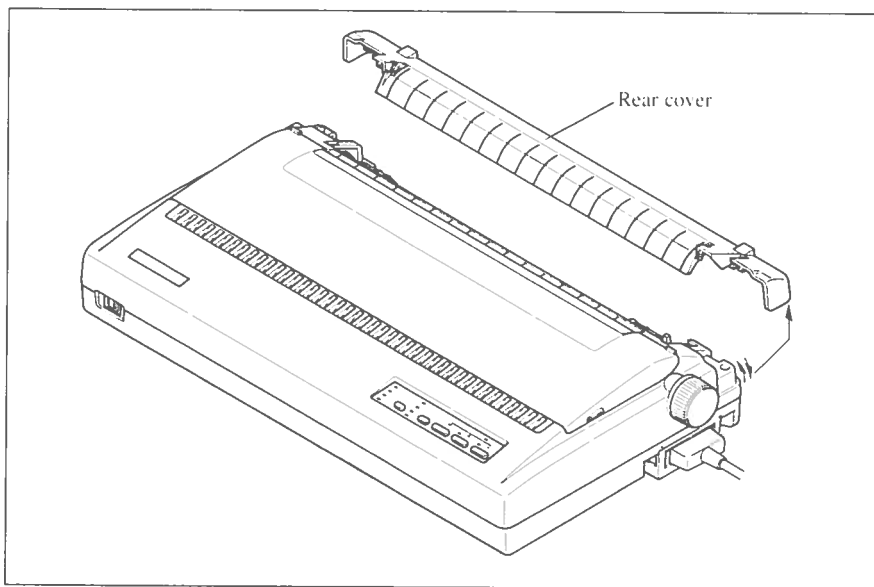

Figure 3-7. Remove the rear cover.
4. Remove the rear cover. Grip it by its rear edge and lift upwards and backwards as in Figure 3-7.